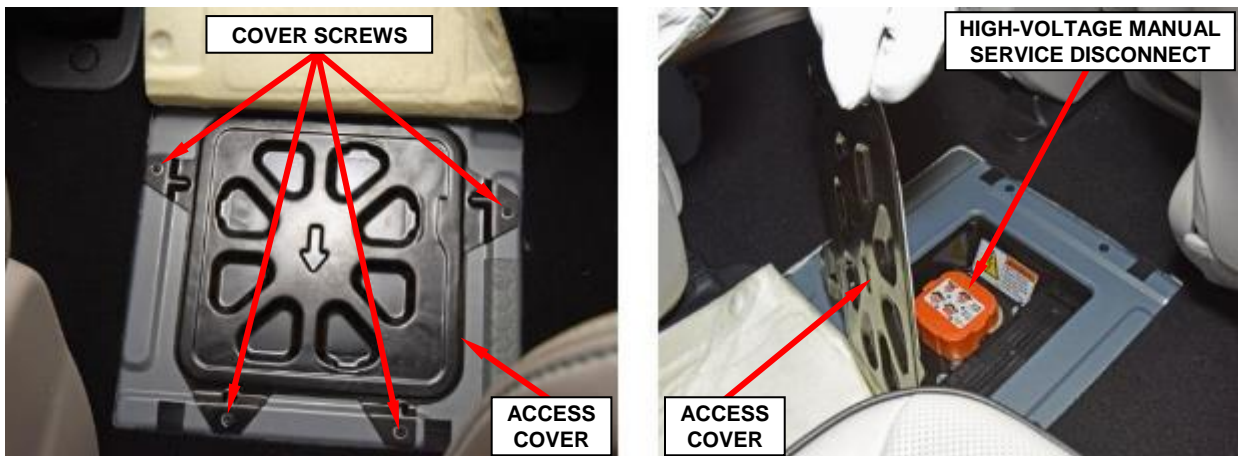

Figure 5 – High-Voltage Manual Service Disconnect Access Cover
- 8. Remove and save the four screws securing the high-voltage manual service disconnect access cover to the floor then remove and save the cover (Figure 5).